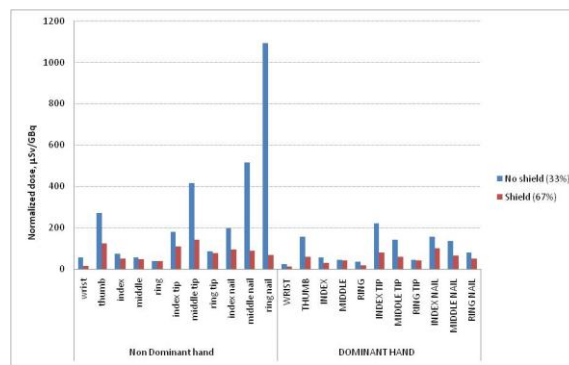

Figure 11: Example, evaluation of shield parameter
- j. Shielding bar plot. Average normalized dose vs tlds positions; where average dose is the mean dose of all workers; separating use or not use of shield. See example in Figure 11.